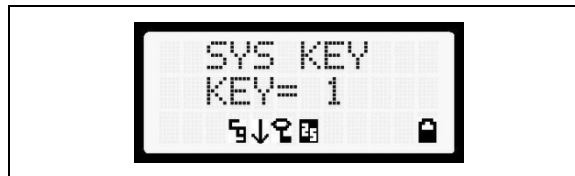

Figure 7-8: System Encryption Key Display
3. Use the  or  button to toggle between displaying the system key (Figure 7-8) or the group/channel key (Figure 7-9).